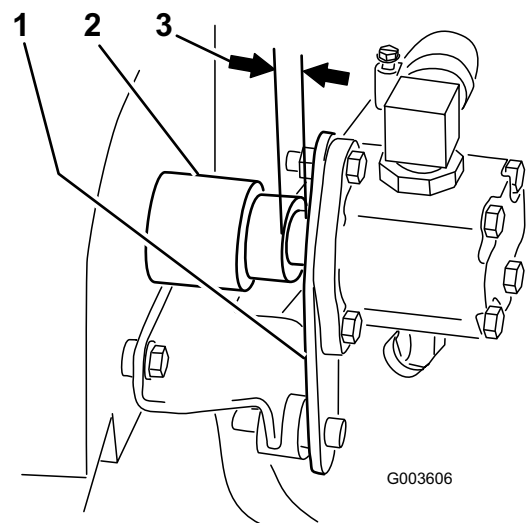

Figure 21
10. The hub assembly needs to be totally seated on the shaft. Verify that there is a gap between the pump plate and hub assembly. If there is no gap, then the hub assembly is not installed correctly and needs to be seated correctly (Figure 21).